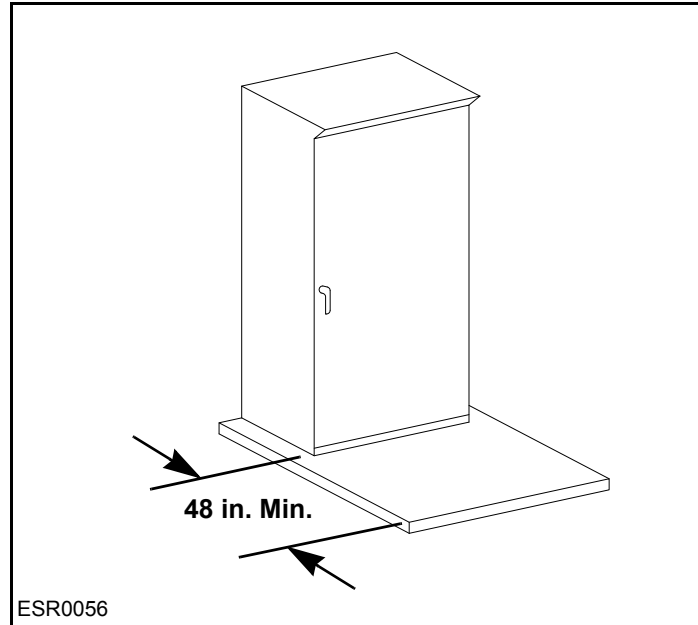

Figure 11-4: Concrete Pad in Front of Cabinet
- When installing outdoor switchgear metering, the Customer must install a concrete pad with 48 inches of concrete in front of any cabinet that contains PGE equipment. Drainage must slope away from the cabinet. See **Figure 11-4**.